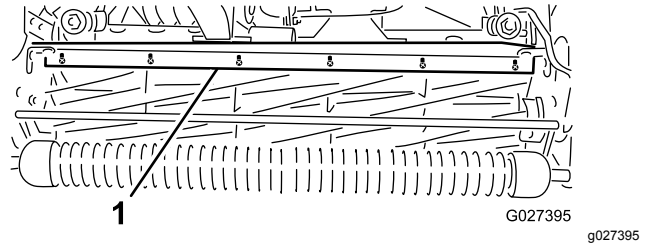

Figure 54
1. Loosen the screws that secure the top bar (Figure 54) to the cutting unit.